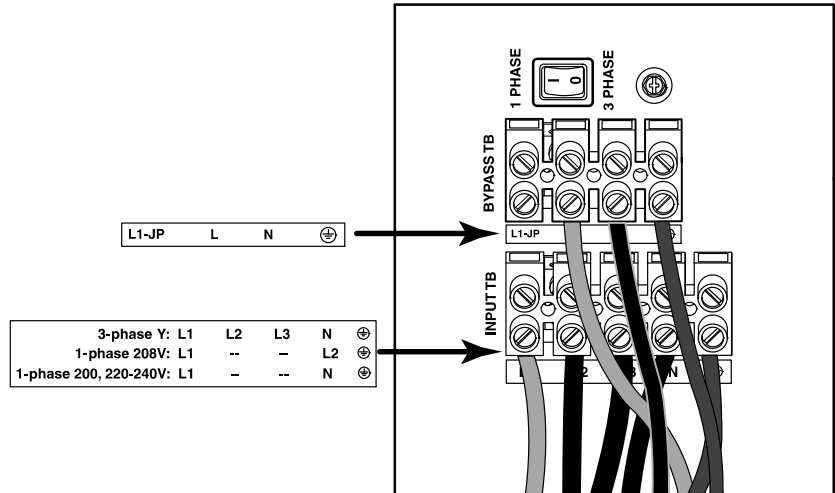

Figure 31. Dual Input Feed (Three-Phase)
For three-phase, dual input feed (see Figure 31), remove the short jumper wire connecting the L1-JP and L pins so that you can connect the second feed to the input bypass terminal block later in this procedure. Only a Y-type (star, 5-wire) input is supported. A delta (4-wire) input is NOT supported. Connect 380–415V L to L, 220–240V L to N. 208/120V three-phase input is NOT supported.
12. Set the phase input selector switch for single-phase or three-phase input. See Figure 31 on page 53 for the location of the switch.